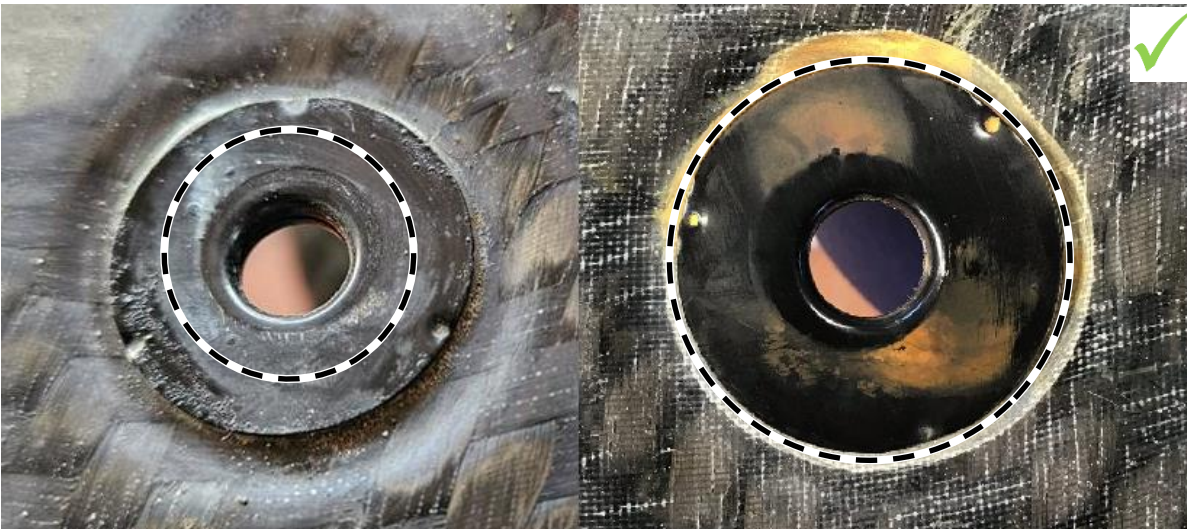

Figure 4, **OK**
**i** Figure 4 → Metal inserts are not/slightly corroded at edge (**OK**)
- b. Metal inserts are **not** and/or **only slightly corroded at the edge** (figure 4): Perform **check/test procedure B**